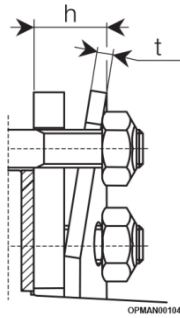

Figure 5.43
- 5.4.1.9 Tight progressively the bolts (e.g. half a turn per time) in order to uniformly compress the Belleville spring to its required compression "h"; see Figure 5.43.